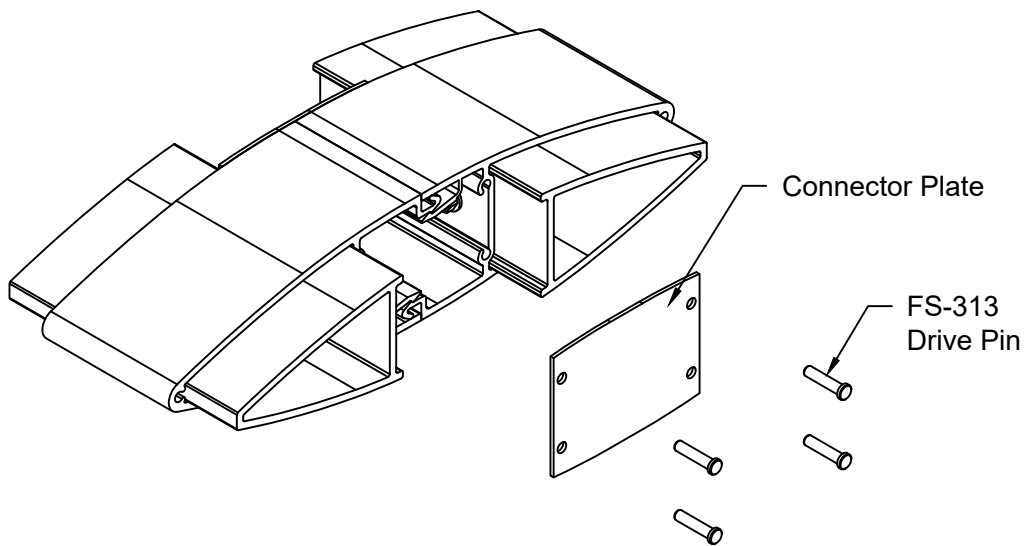
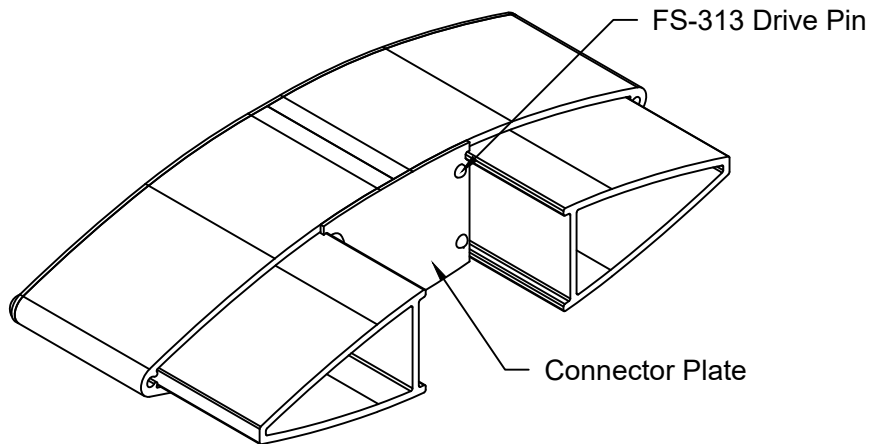

FIGURE 41
FIGURE 43
- 3) Assemble the two sections of the blade and splice together, then attach a connector plate on each side of intermediate (SEE FIGURE 41 & 42) and splice side of jamb (SEE FIGURE 43, page 23). Connector plate will attach to blade using (4) FS-313 fasteners. See parts list for connector plate part number for each blade assembly.